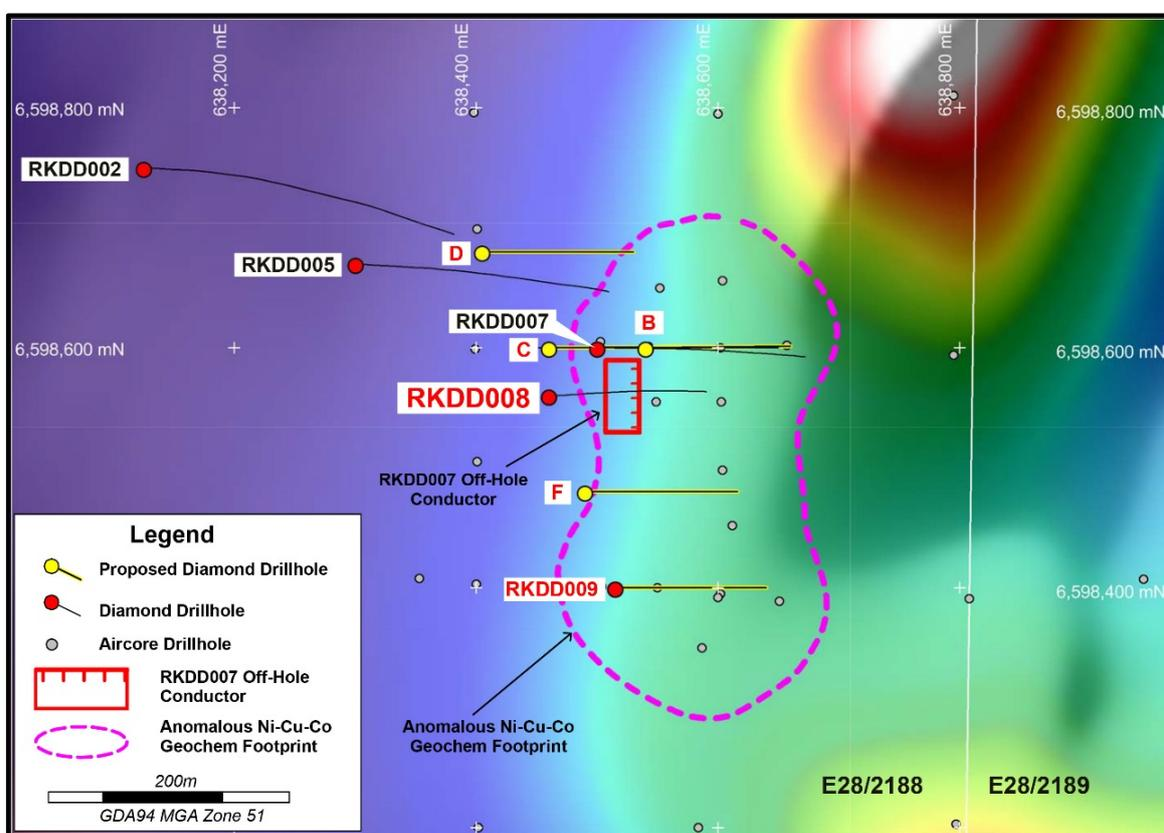

Figure 1: RKDD008 and Proposed Diamond Drillhole Locations on Aeromagnetics
Diamond drillhole RKDD008 was designed to test a strong 6,000-8,000S offhole conductor identified by downhole electromagnetic (DHTEM) surveying in RKDD007 (see ASX announcement 23/01/2020). This offhole feature was interpreted to represent the down plunge extension of significant nickel-copper sulphide mineralisation previously identified in RKDD007 (14.9m @ 1.07% Ni, 0.75% Cu, 0.06% Co from 114m) (see Figure 1).
- Continue diamond drilling of hole RKDD009 under previous aircore drillhole RKAC151, which returned anomalous Ni-Cu-Co geochemistry (see Figure 1).